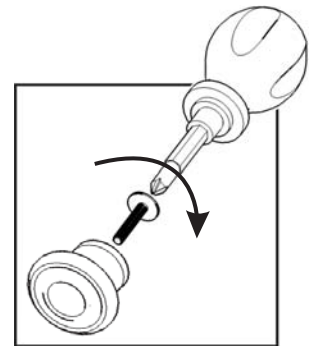

Figure 5
Assemble Knobs to Doors (A) and (B) with Machine Screws. (see Figure 5)